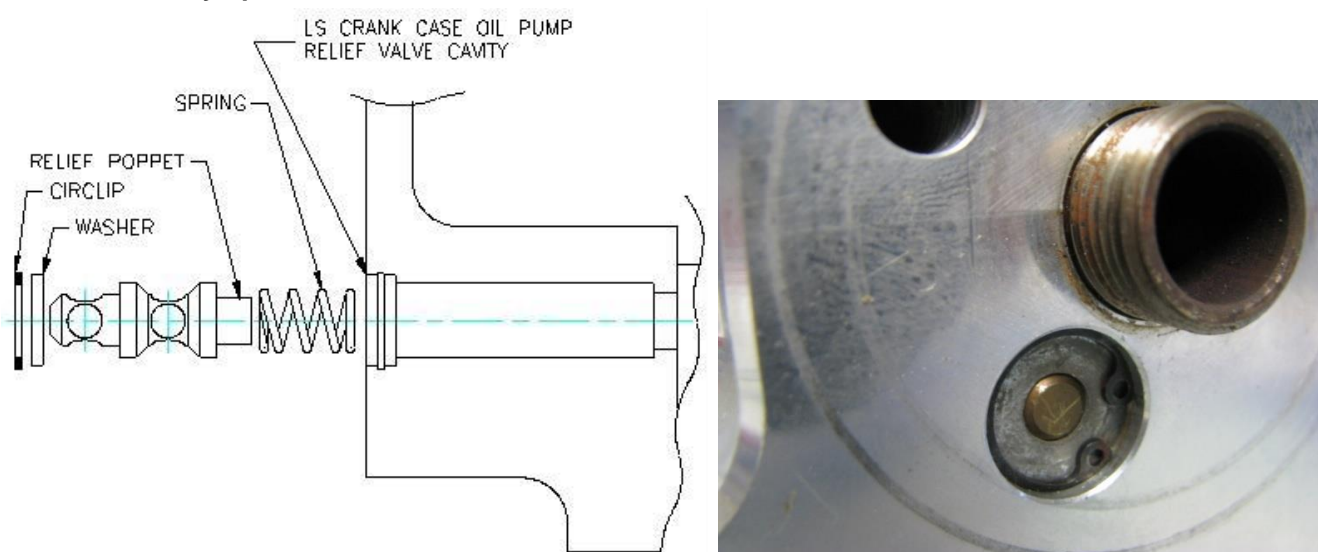

Figure 85 – Oil Pressure Relief Valve
- The oil pressure relief valve assembly is located underneath the oil filter / oil cooler adaptor on the side of the crankcase as shown in Figure 85.